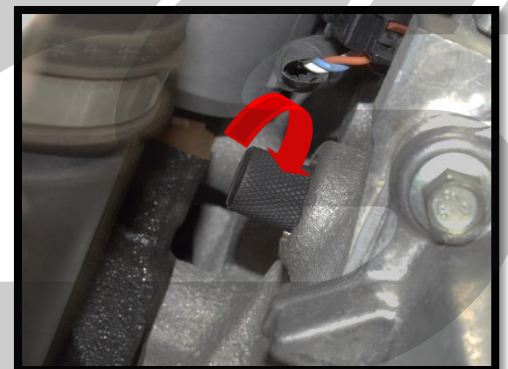

Figure 3f
- e) Screw the TDC locator pin into the cylinder block all the way by hand (Figure 3f).